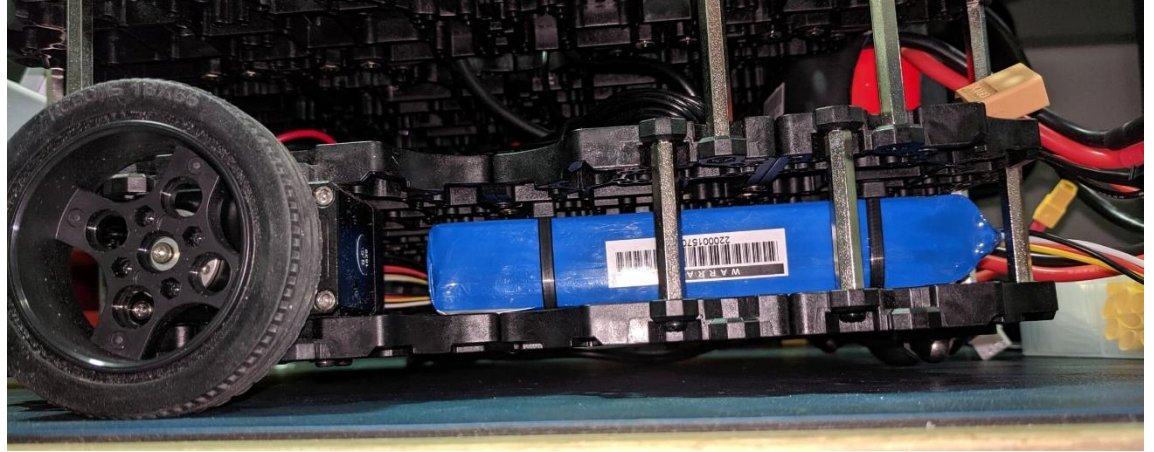

Figure 3 Mobile base with original casters away from the ground
- Adding the new caster at the exact height—just one or two millimeters more than the existing caster—posed a challenge because of the difficulty of measuring small spherical parts on the robot assembled. For that reason, the caster mount placed it slightly lower than I planned, Fig 3. I was very concerned with this fact and discussed it with Bobby who assured me that he would be able to calibrate the IMU for that additional pitch. However, when I finally measure it with a level, I observed that the base has only one degree of pitch forward. Meaning that with the original caster, the base was probably tilted backwards. Therefore, this unplanned change might improve our IMU reading.